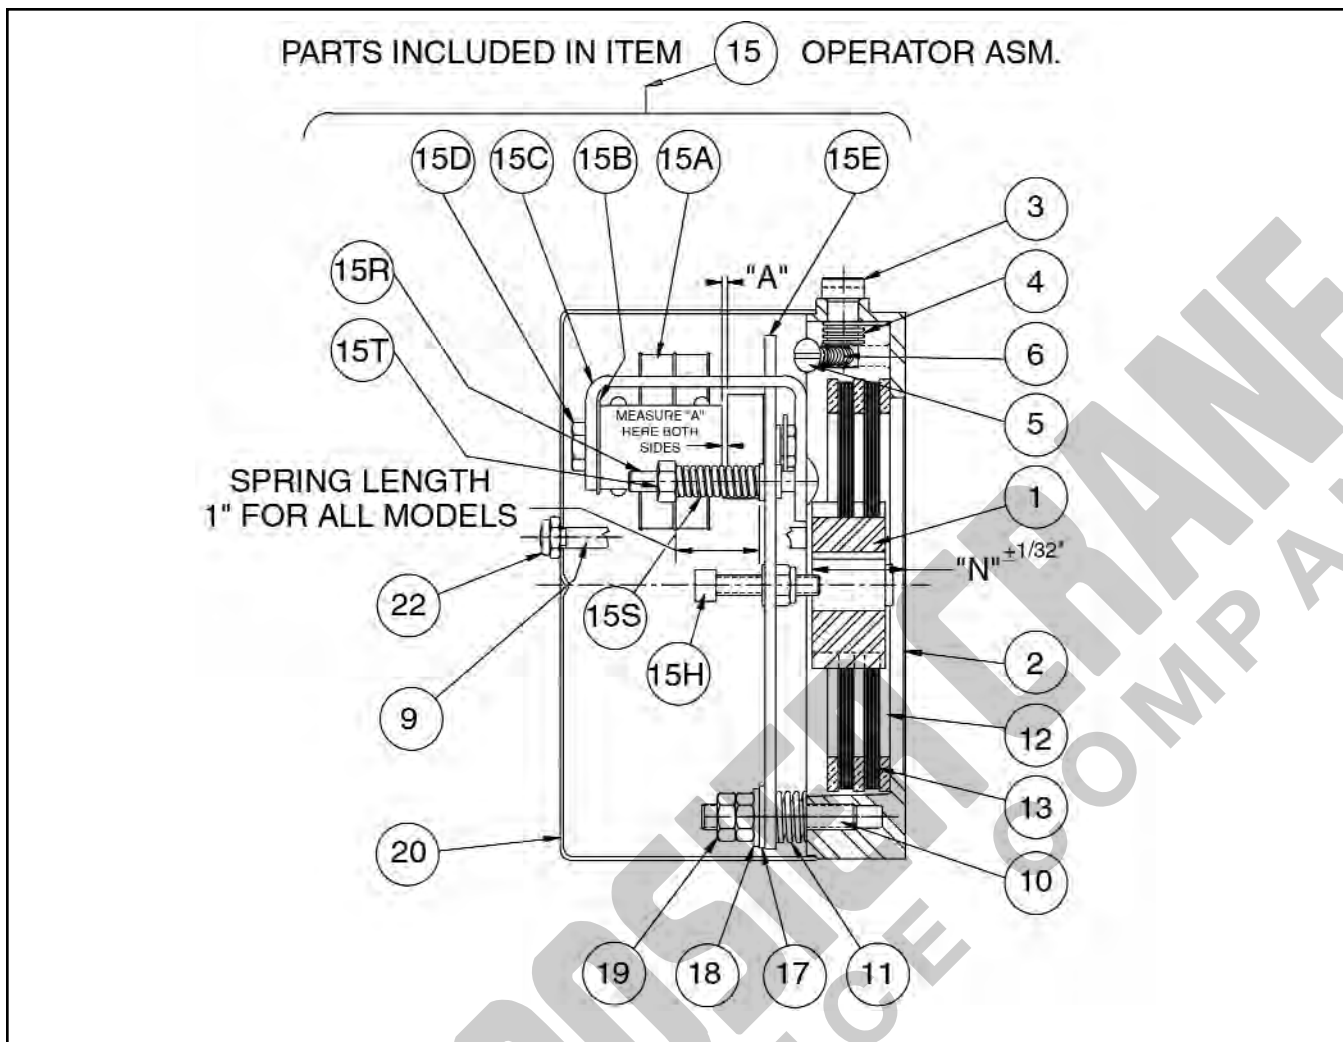
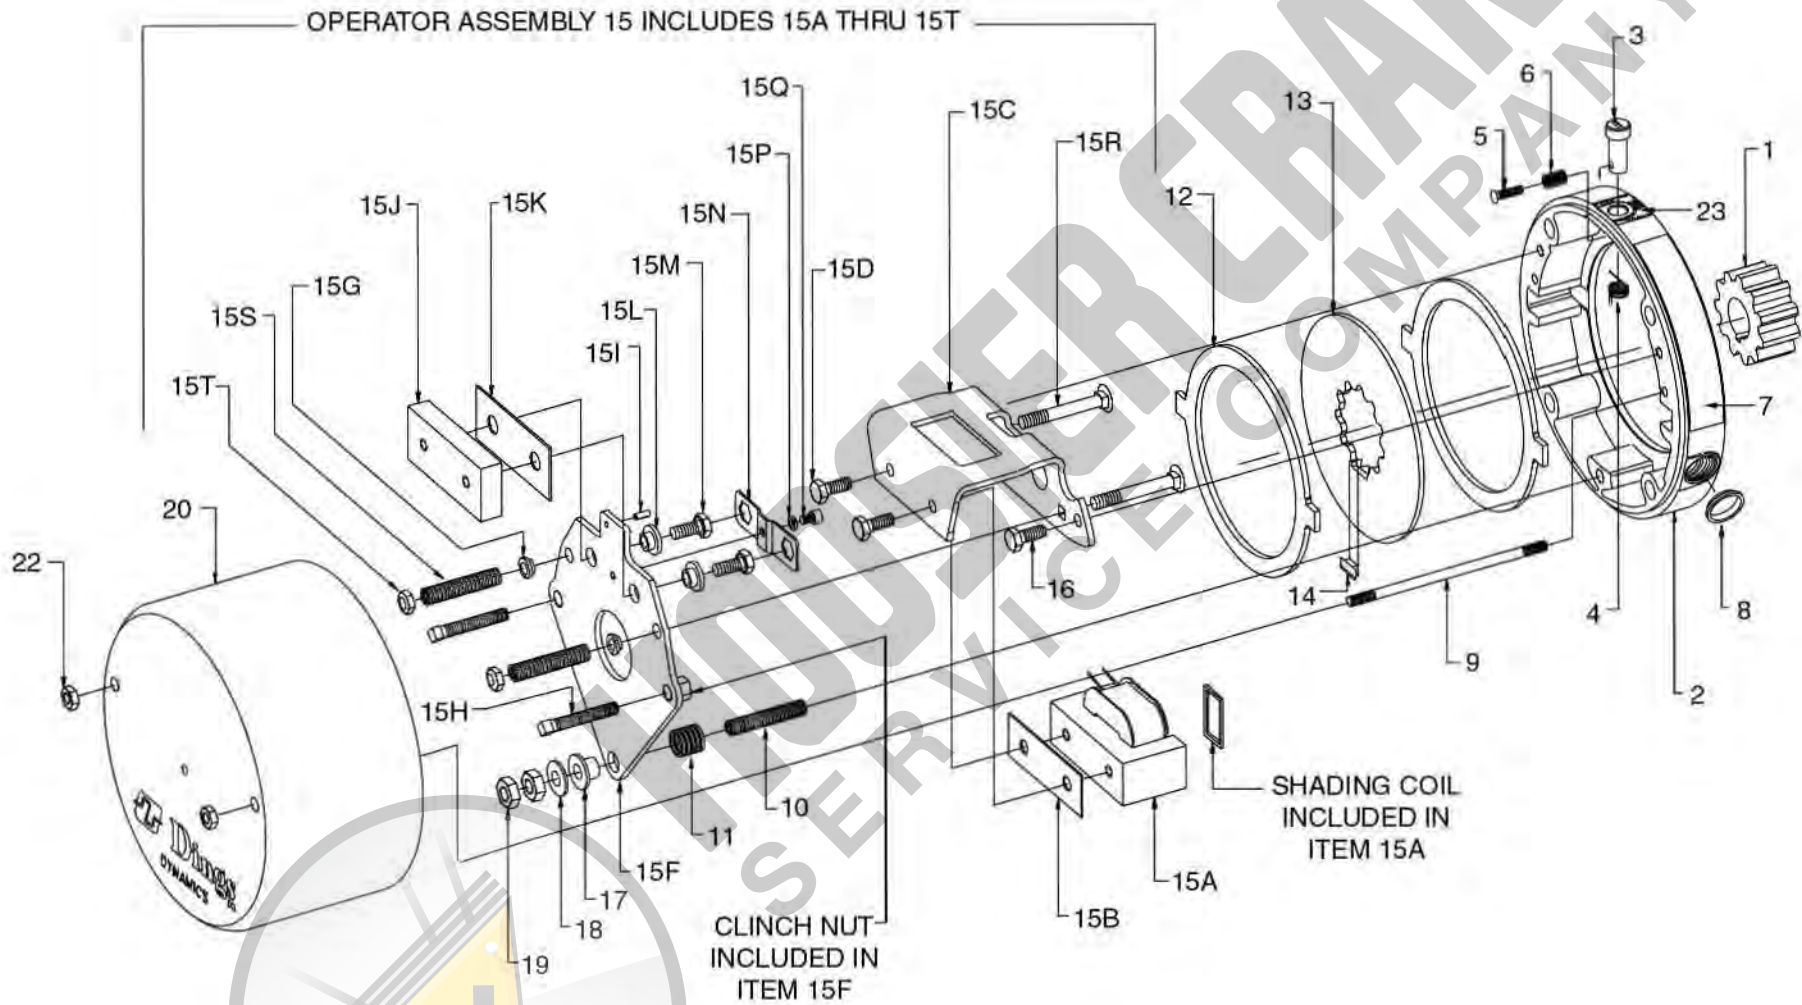

Figure 3
Figure 9
Numbers in parentheses refer to parts illustrated in Figs. 3, 5, 6 and 9.
Before air gap "A" reaches .100", adjustment is required. Any delay in adjusting the magnet air gap will result in eventual loss of torque. Refer to Fig. 3.
The magnetic disc brake is factory set for rated static torque. The brake can be adjusted to reduce torque which increases stopping time. Do not attempt to adjust brake for higher torque, as this will cause premature coil burnout. (Refer to Fig. 3)
5. Re-assembly of operator assembly (15)
Refer to Figs. 3 and 9. (Capscrew (16) is shown in Fig. 9 and not Fig. 3)
4. Reassemble to magnet bracket (15C) using items (15R), (15S) and (15T). Reassemble operator assembly to brake bracket. Set magnet air gap "A" and set torque springs (15S) to 1" as shown in Fig. 3.